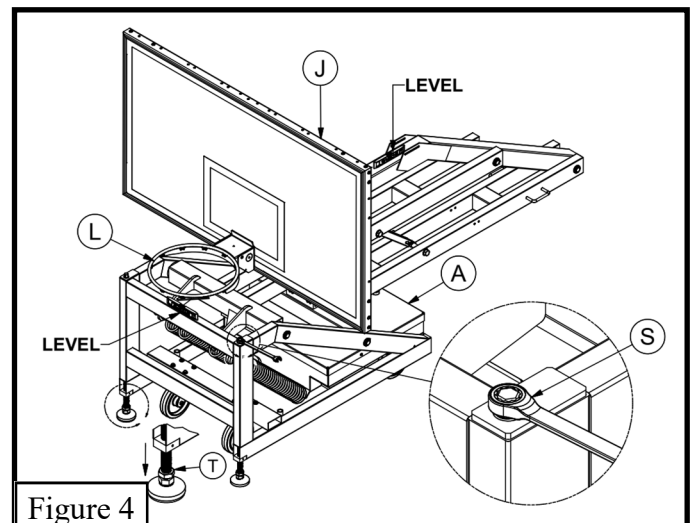

Figure 4
6. Lower the two *Foot Pads* (B) (raising the front of the base) using the *Ratchet Wrench* (S) until the extension arm is level front to back and the *Portable Base* (A) is level left to right. See Figure 4.